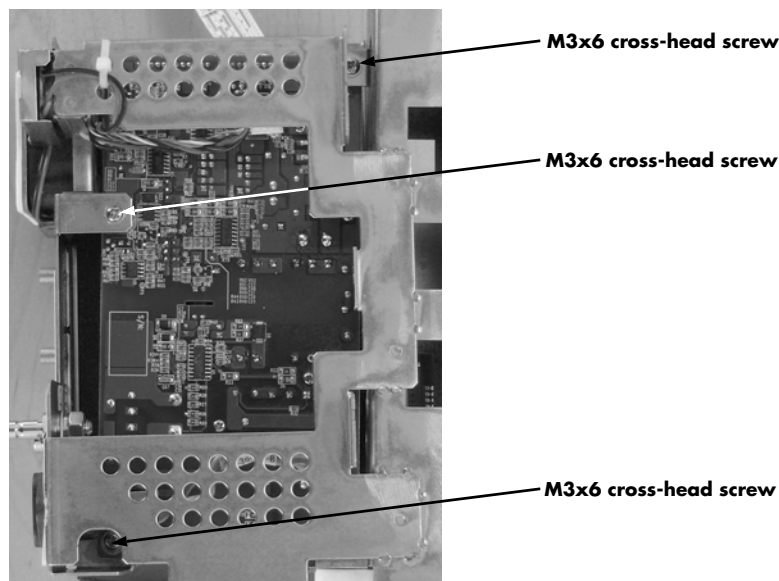

FIGURE 4-20 Remove three (3) M3x6 cross-head screws.
2. Remove the power board by removing the three (3) M3x6 cross-head screws (as shown in Figure 4-20).